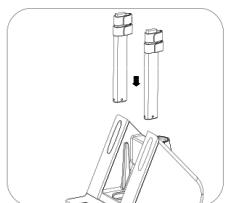

Fig. 2
- Put the telescopic pole insert the base, Fig. 2